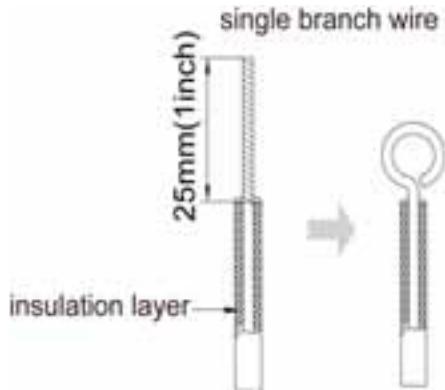

Fig. 5.1.1
(1) Single wire connection (as shown in Fig. 5.1.1)